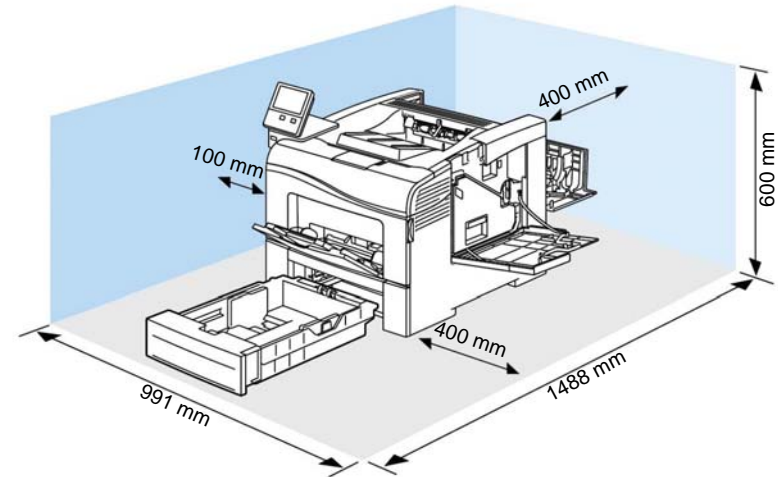

Figure 7 Minimum clearance
1. In order to function correctly, the device must be placed on a flat surface with the following minimum clearances shown in Figure 7 and Figure 8 with the optional 550-sheet feeder.